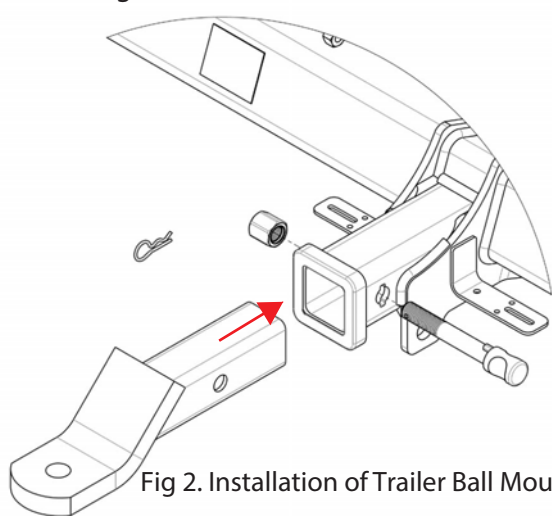

Fig 2. Installation of Trailer Ball Mount
4. Cut section of bumper bar as per fig 2 **Note cut is only required for FG falcon Ute only.**
Insert Trailer Ball Mount (TBM) into towbar HITCHBOX, aligning hole in TBM SHANK with hole in HITCHBOX (Fig 2).